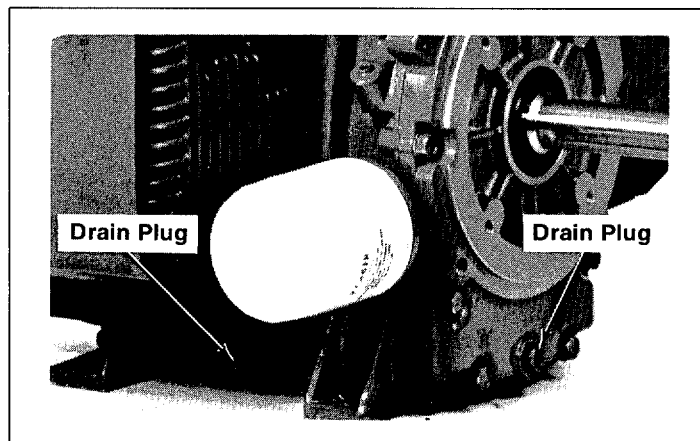

Figure 2. Oil Filter, Oil Drain Plug Location
1. Remove the oil drain plug and dipstick. Refer to Figure 2. Tilt the engine slightly towards the drain hole to obtain better drainage.